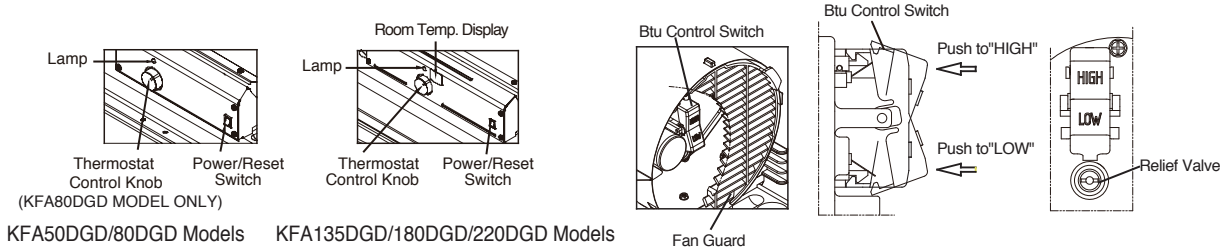

Figure 8. Controls for All Models
- 4) Position the Handles on top of fuel tank flange. Insert screws through handles, fuel tank flange and wheel support frames as shown in Figure 8 and attach nut finger tight after each screw is inserted.
5. Push "BTU control Switch" to desired level "High or LOW" (See Figure 8.) (KFA135/180/220DGD Models Only)